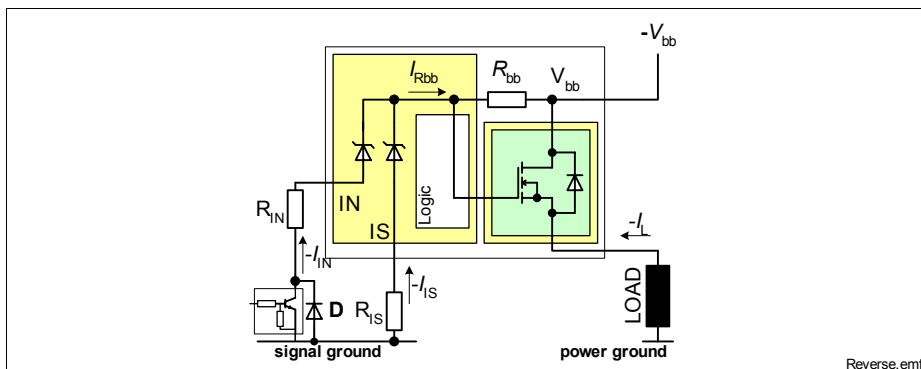

Figure 14 Reverse battery protection
- 3) Slew rate limitation can be achieved by means of using a series resistor for the small signal driver or in series in the input path. A series resistor R_{IN} in the input path is also required for reverse operation at $V_{bb} \leq -16V$. See also Figure 14.
The device can not block a current flow in reverse battery condition. In order to minimize power dissipation, the device offers Reversave™ functionality. In reverse polarity condition the channel will be switched on provided a sufficient gate to source voltage is generated $V_{GS} \approx V_{Rbb}$. Please refer to **Figure 14** for details.